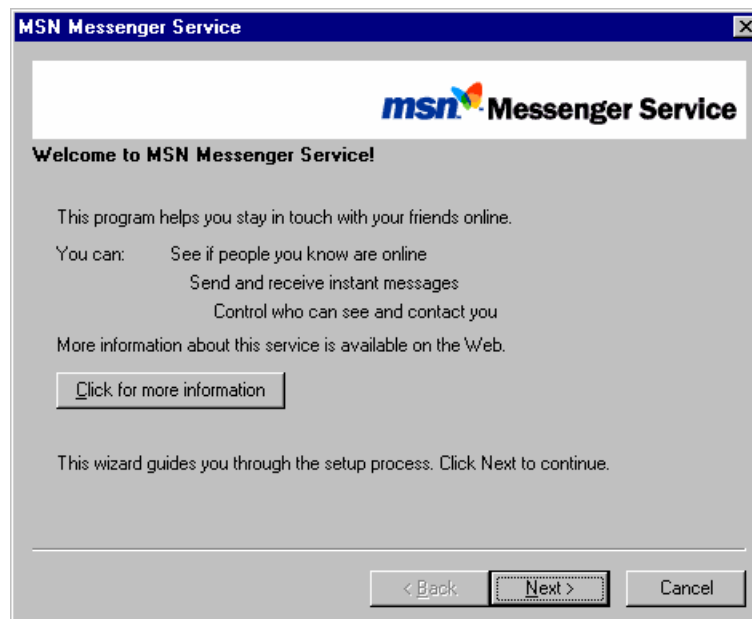

Figure E.2. MSN Messenger Service Welcome Screen
4. When your computer restarts, the MSN Messenger Service Welcome screen will appear, as shown in **Figure E.2**. Click the **Next** button to continue.